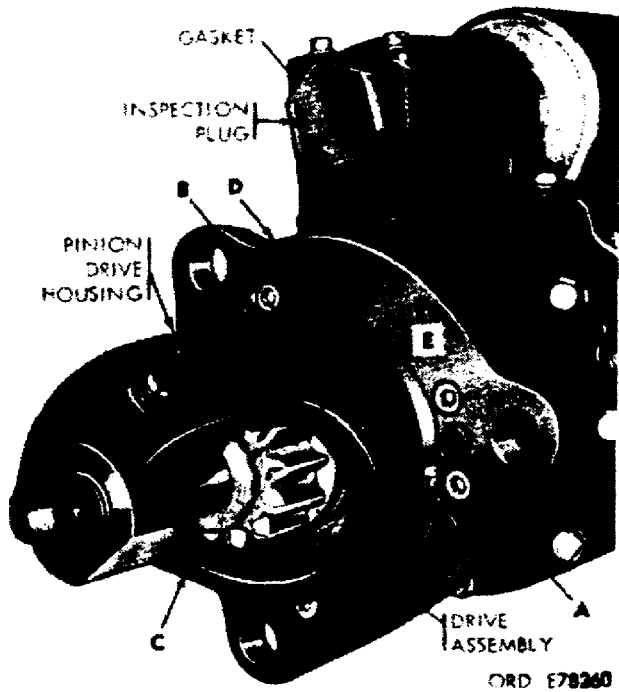
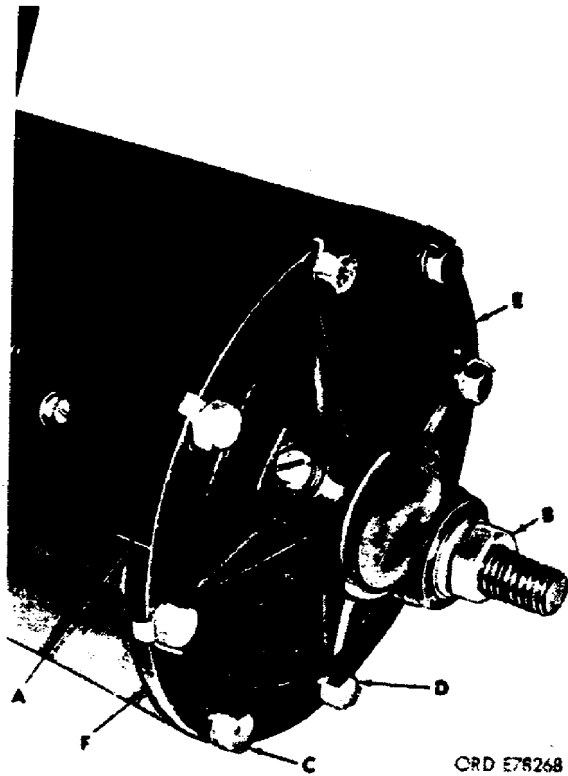
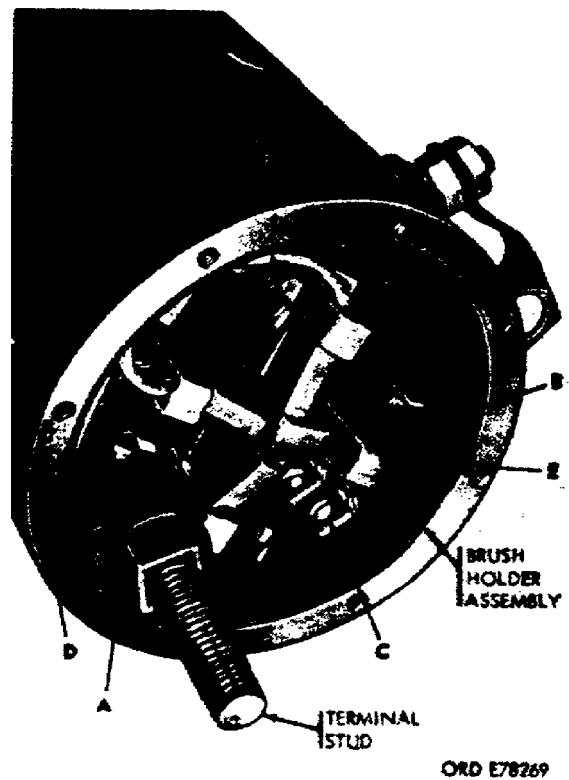

Figure 9. Pinion housing.
Figure 17. Commutator end head assembly.
Figure 18. Brush holder assembly.
(1) The position of the pinion housing with respect to the intermediate housing should be noted, so that they may be reassembled as they came apart. Therefore, it is a normal procedure to scribe a mark on the pinion housing and the intermediate housing to locate the relative position at assembly.
(2) Remove the six socket-head capscrews (B) (fig 9). This allows the pinion housing to be removed from the intermediate housing with the attached gaskets. The thrust washer (E) is loose so it should be removed from the armature shaft.
f. Before removing the commutator end head assembly, scribe a mark on the end head to locate the relative position (fig 17).
(1) Next free the terminal stud of the hex-nut and associated washers.
(2) Bend the metal locking taps outward, remove the hex-head capscrews, and then the commutator end head assembly.
g. To remove the brush holder assembly, take off the bushing and insulating washer from the terminal stud; then remove the insulation around the brush holder. Remove the roundhead screws and self-tapping screws securing the brush leads and holder. Take out the brush holder assembly (fig 18).
10. ASSEMBLY. In assembly it is important that the reverse procedure of disassembly be followed. A thread sealer should be applied to the pole shoe screws, pipe plugs, and solenoid relay mounting screws before assembly. The bronze bearing bushings have oiler holes; these holes must be aligned with the oiler holes in the pinion drive housing (fig 9), intermediate housing (fig 15), and the commutator end head (fig 17).